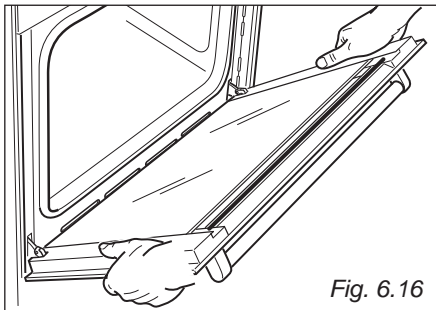

Fig. 6.16
- Hold the door as shown in fig. 6.16.